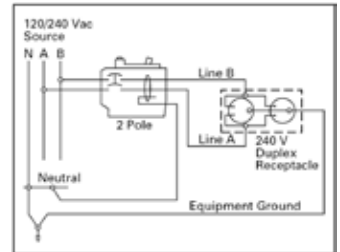

Figure 3. 2-Pole 240V Load Application Sourced by 120/240VAC
① Common trip refers to 2-pole 240 volt load application sourced by 120/240 Vac (see Figure 3).